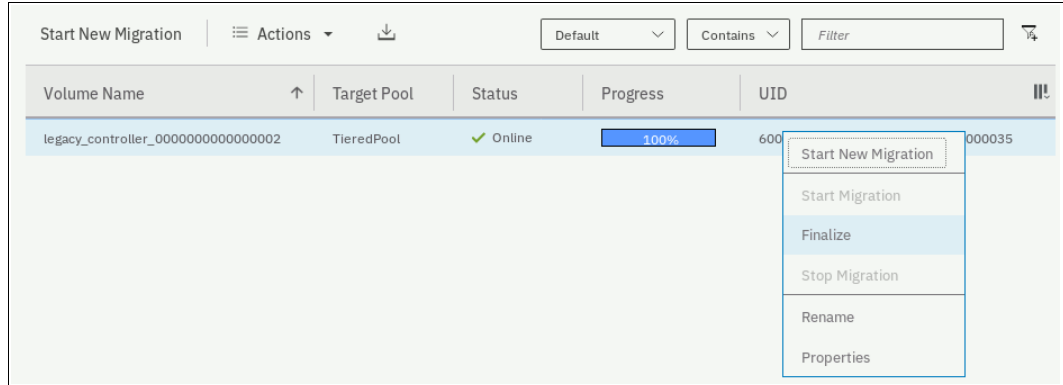

Figure 8-19 Finalizing a migration
17. When the migration completes, select all of the migrations that you want to finalize, right-click the selection, and click **Finalize**, as shown in Figure 8-19.